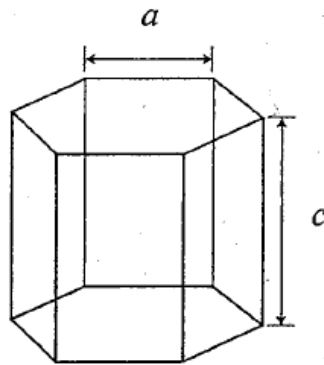

Fig. 1
- (2) In the body-centered cubic and face-centered cubic structures, give one Miller indices for a crystallographic plane where the atoms are most tightly packed, and answer how many of those planes are crystallographically equivalent to each other. If the lattice constant is 0.3 nm, find the number density of atoms  $[/math>m2] on that face.$
- (3) If atoms are assumed to be rigid spheres in a hexagonal close-packed lattice, find the axial ratio  $c/a$ . (Note that  $a$  and  $c$  are the lattice constants of the unit cell as shown in Fig. 1.
- (4) Imperfections of crystal structure are generally classified into a) point defects, b) line defects, and c) planar defects based on their morphology. For each, give one specific name of the defect and explain its structure and effect on the properties of the material.